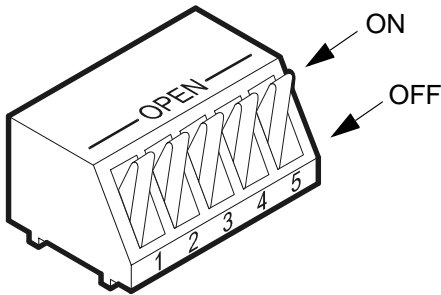

Figure 40 Internal DIP Switches
DIP switches inside the BCC determine whether or not the disk system triggers a SCSI bus reset in two circumstances: (1) when a disk module is inserted or removed, and (2) when the power fails. As shown in Figure 40, switches are numbered 1 to 5, left to right.